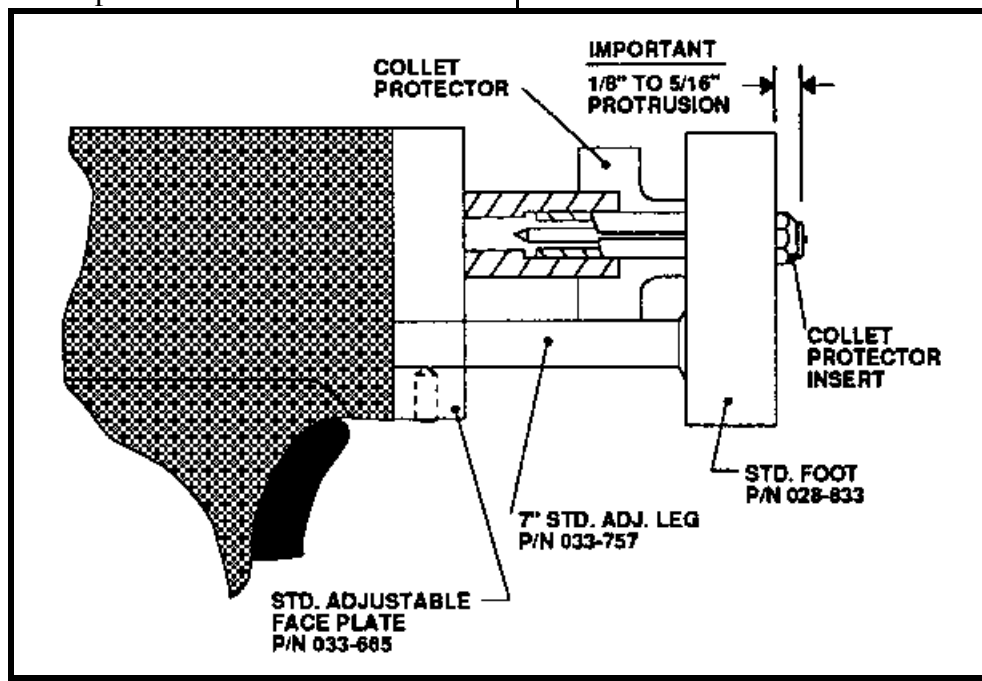

Figure 6 Collet Protector Gun Setup
11.3 GUN SET-UP FOR WELD PINS WITH COLLET PROTECTOR (see Figure 6)